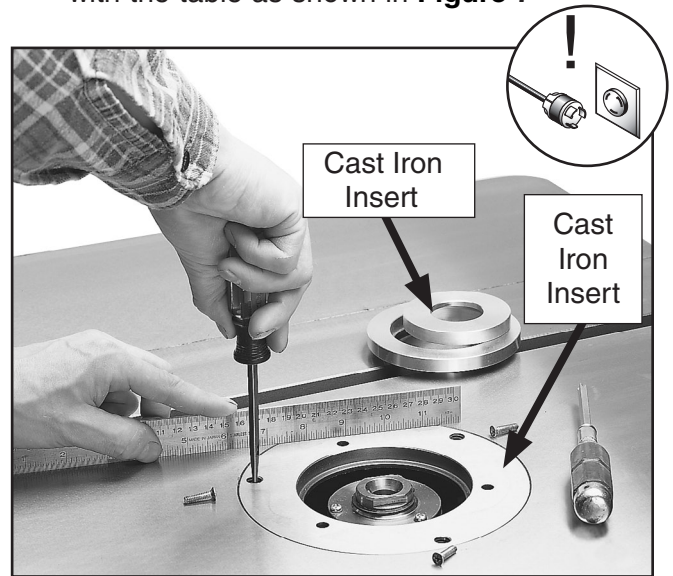

Figure 7. Leveling table insert.
- Using a straightedge and a flathead screwdriver, turn the barrel screws clockwise or counterclockwise to level the cast iron insert with the table as shown in **Figure 7.**